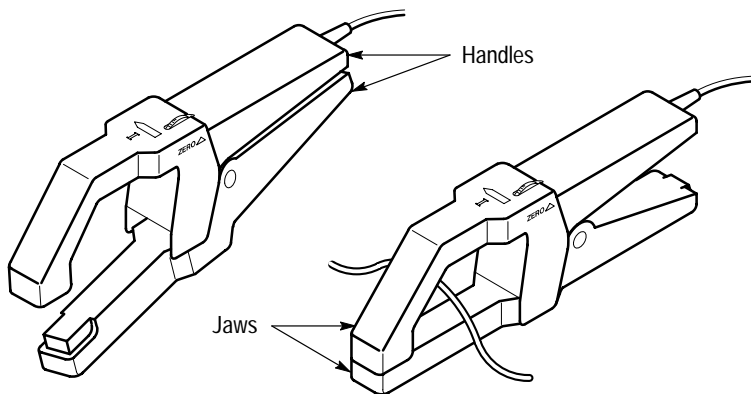

Figure 2: Connecting the A610
2. Move the **0/1** switch to the **1 (ON)** position to power the probe.
4. Connect the probe to the circuit by opening the jaws and clamping around the conductor. *Grabbing both the “hot” and neutral wires may give you a zero reading.* See Figure 2.